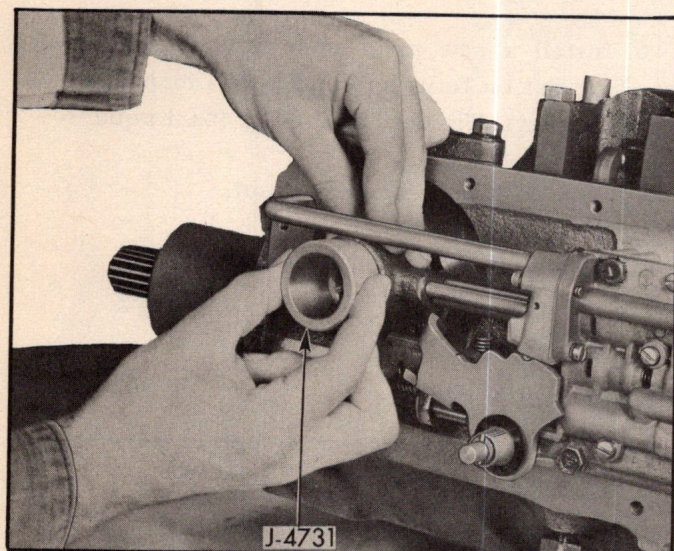

Fig. 312—Governor Aligning Tool in Place
1. With governor alignment tool, J-4731, in place (Fig. 312), tighten the rear pump bolts and parking brake bracket bolts. Tool should rotate freely, and governor should rotate freely as much as gear backlash allows. If tool is tight, loosen parking brake bracket bolts, and shift bracket to position where alignment tool will rotate freely. Tighten parking bracket bolts and check to see that tool still rotates freely.